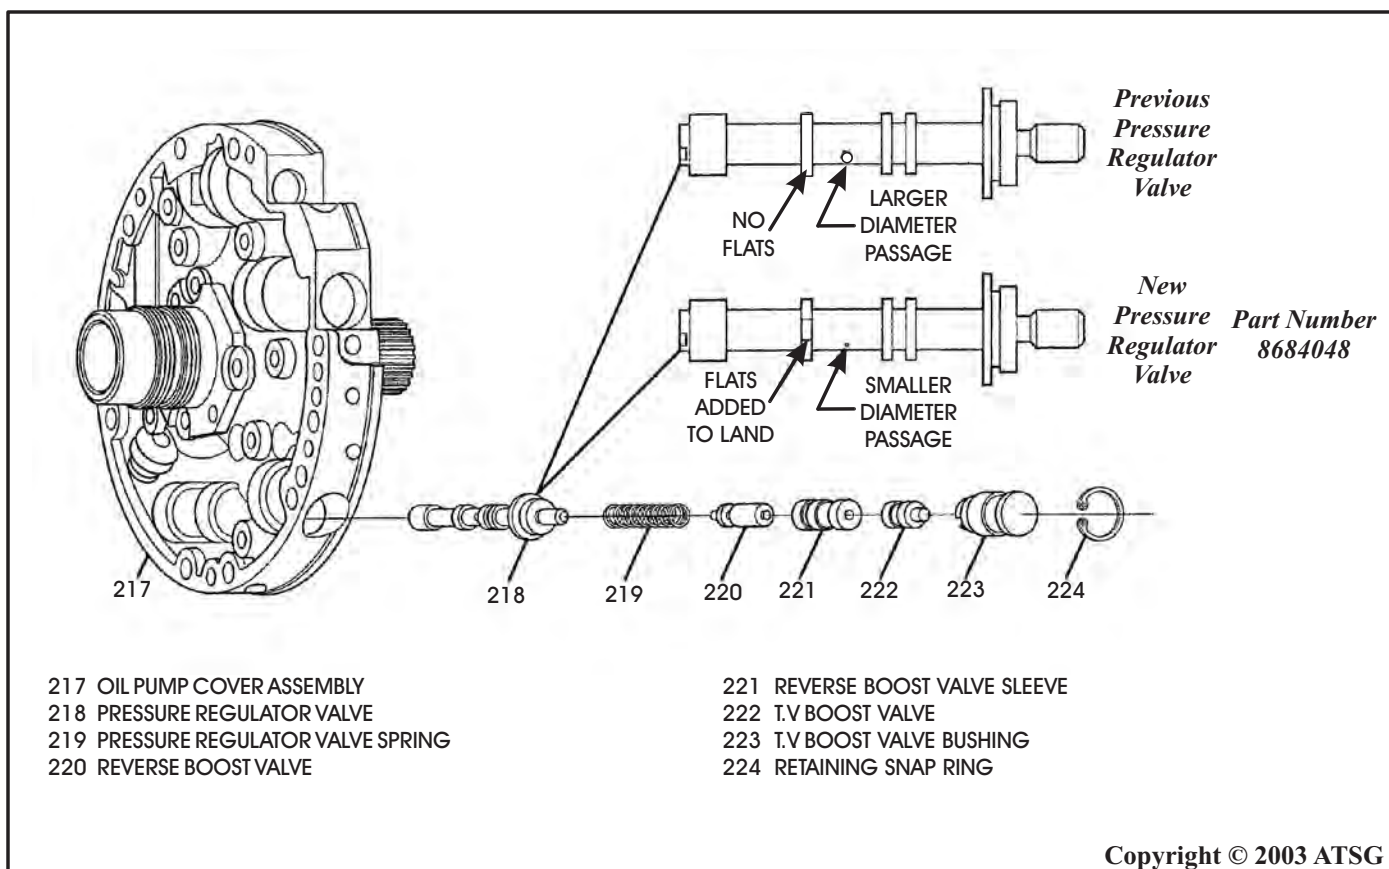

Figure 76
CHANGE: Beginning at the start of production for 1993 models, all 700-R4 transmissions were built with a new Pressure Regulator Valve with "Flats" on the third land, as shown in Figure 76.
- (1) **PRESSURE REGULATOR VALVE** - Now has "Flats" ground on the third land of the valve, as shown in Figure 76.